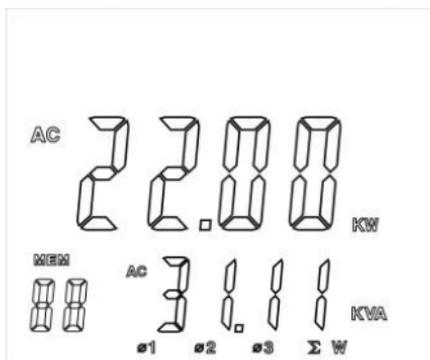

Figure 13
4. After record the current power measurement value of the third phase, finally press Σ and hold for 1seconds to display the 3 phase sum of acitve power value and apparent power value, as figure 13.